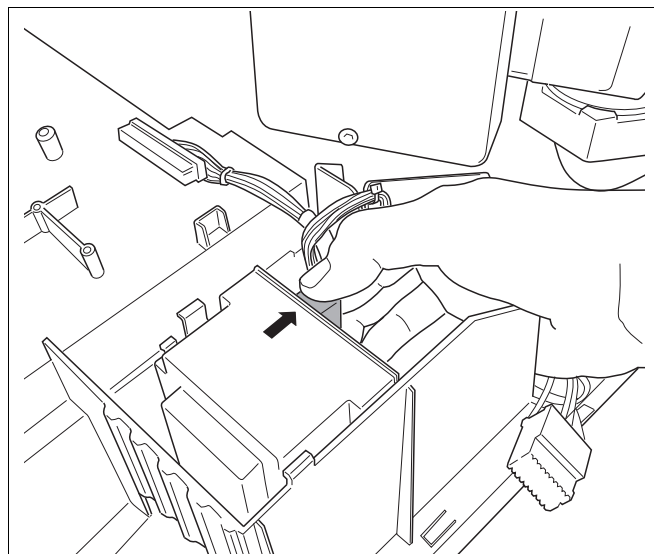

fig. 67 Pulling the plugs from the transformer
- Pull both plugs on the rear of the transformer (see fig. 67).